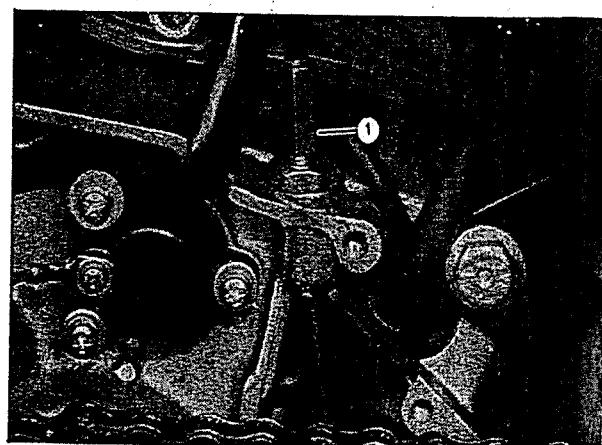

Fig 2.8
- If the marks are not aligned, adjust by means of the cable adjuster (1) (fig 2.8) to align them.